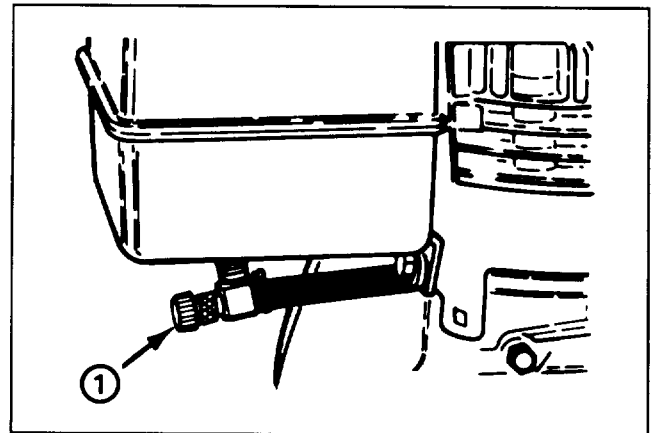

Figure 11
Fuel Shut-Off Valve (Fig. 11)—Valve is located under fuel tank. Close valve to stop fuel flow from fuel tank and open valve to allow fuel to flow to the carburetor. Close valve when snowthrower is not used.
2. Open fuel shut-off valve below fuel tank (Fig. 11).